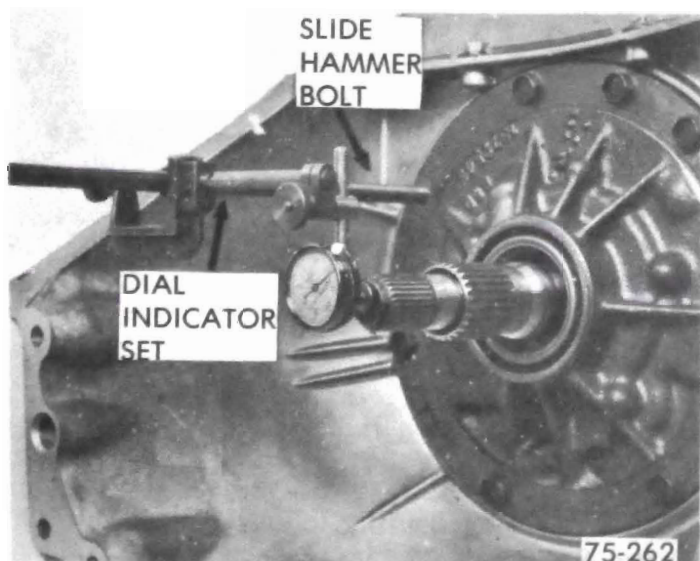

Figure 75-248
3. Attach slide hammer bolt to threaded hole in oil pump. See Figure 75-248. With flat of hand on end of input shaft move shaft rearward. Install Dial Indicator Set J-8001 on rod and "O" dial indicator on end of input shaft. Push on end of output shaft to move shaft forward, the reading obtained will be the clearance. There are three selective thrust washers available, .065"-.067", .082"-.084", and .099"-.101" thick.